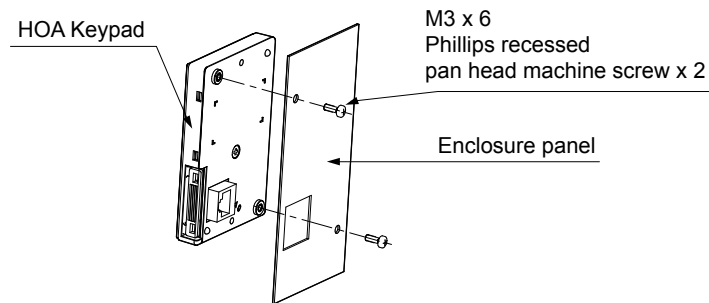

Figure 2.8 External/Face-Mount Installation
2. Position the HOA keypad so the display faces outwards, and mount it to the enclosure panel as shown in Figure 2.8.